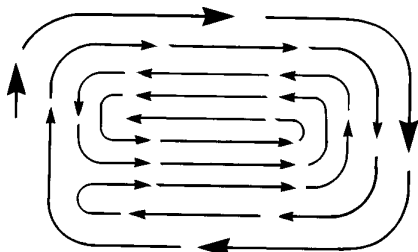

FIG. 9
- For side discharge lawn mowers, cut in a counterclockwise direction, starting at the outside of the area to be cut, in order to spread grass clippings more evenly and to put less load on the engine. To keep clippings off of walkways, flower beds, etc., make the first cuts in a clockwise direction (See Fig. 9).